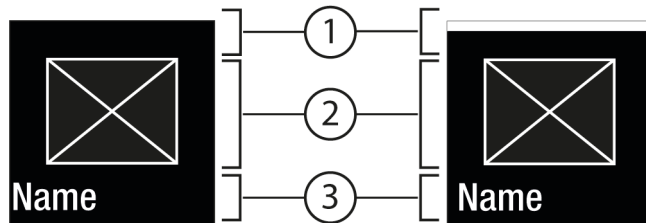
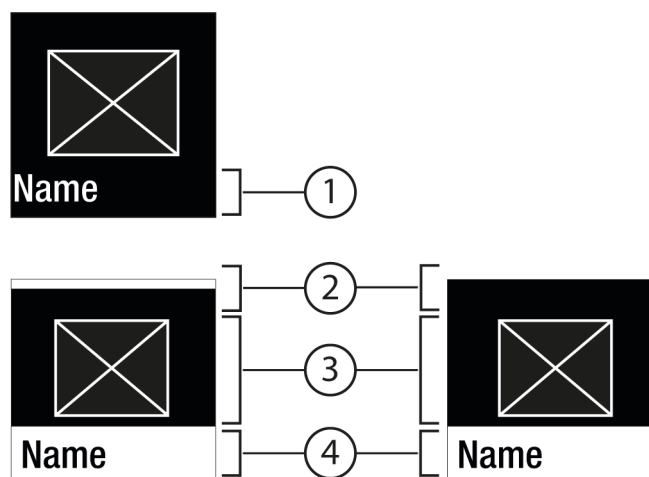

Fig. 6
Fig. 7
- Press Confirm *Fig. 5 (2)* to go to the submenu *Fig. 7 (4)*.
- Set new level: Press Confirm *Fig. 5 (2)* to select a deselected value *Fig. 6 (1)*.
- Back to menu: Press Confirm *Fig. 5 (2)* to select the selected value *Fig. 6 (2)*.
▷ Status: on *Fig. 6 (1)* appears briefly in the submenu *Fig. 7 (4)*.